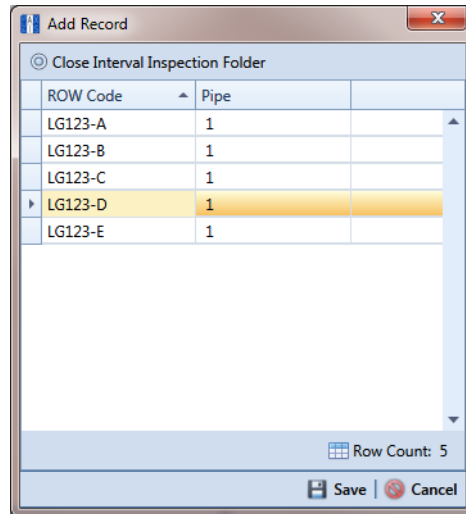

Figure 5-5. Add Record
- 5 Click the  **Add** button to open the *Add Record* dialog box (Figure 5-5, page 139).